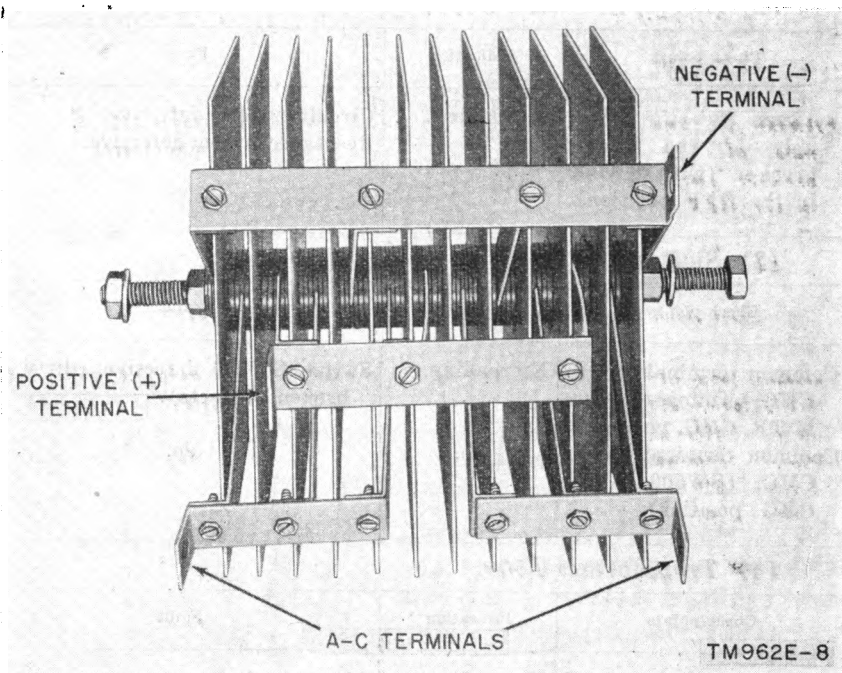

Figure 9. Selenium Rectifier RA500, showing terminals.
(6) *Rectifier RA500.* Disconnect the leads between the arms of the rectifier. Place the ohmmeter test prods across each section, measuring both ways. If the resistance is very low both ways, the rectifier stack is shorted (fig. 9).
b. A part, such as selenium rectifier RA500, should be marked at its terminals, when it is removed, to eliminate any error when replacing a new part (fig. 9).